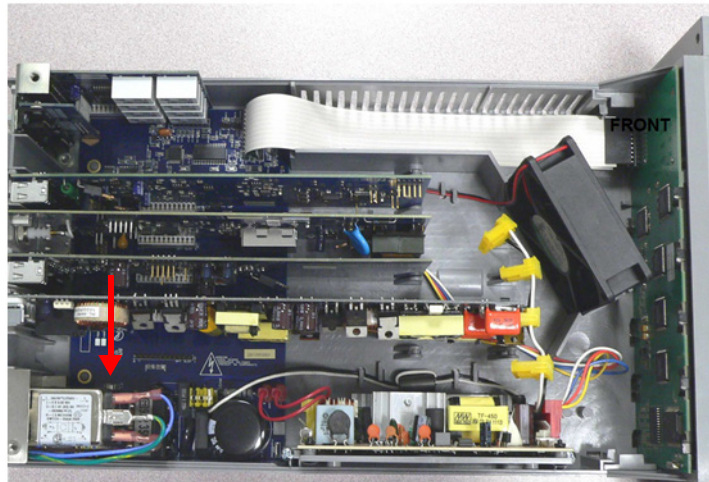

Figure 4-5 Fuse Replacement
3. Locate the mains fuse under the IEC input module and replace (Figure 4-5).